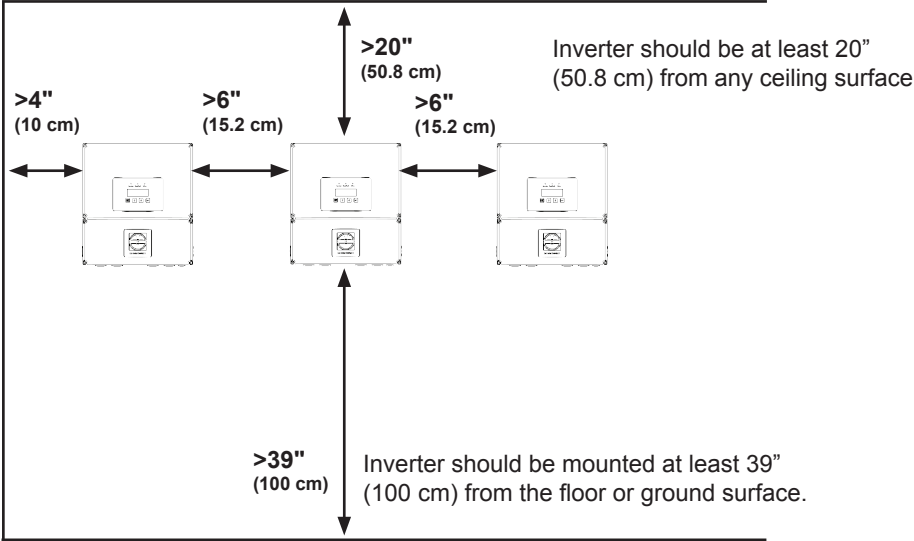

Figure 13: Inverter clearances
2. For clearances around inverter, see Figure 13.